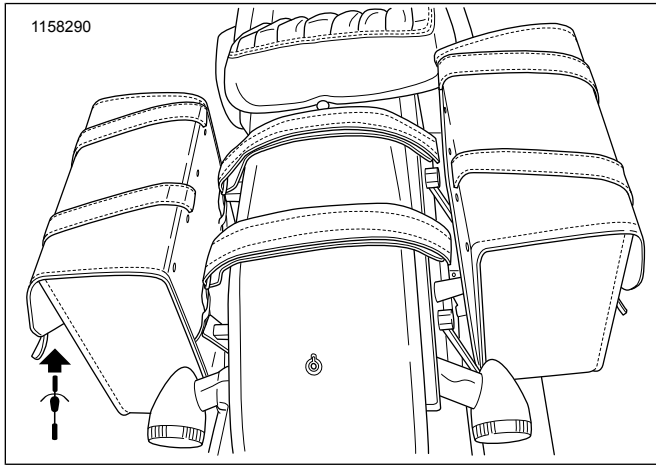

Figure 3. Support Yoke Placement
- Figure 3 Lay support yokes, already attached to right side saddlebag, across fender on anti-abrasion tape and attach to left side saddlebag.